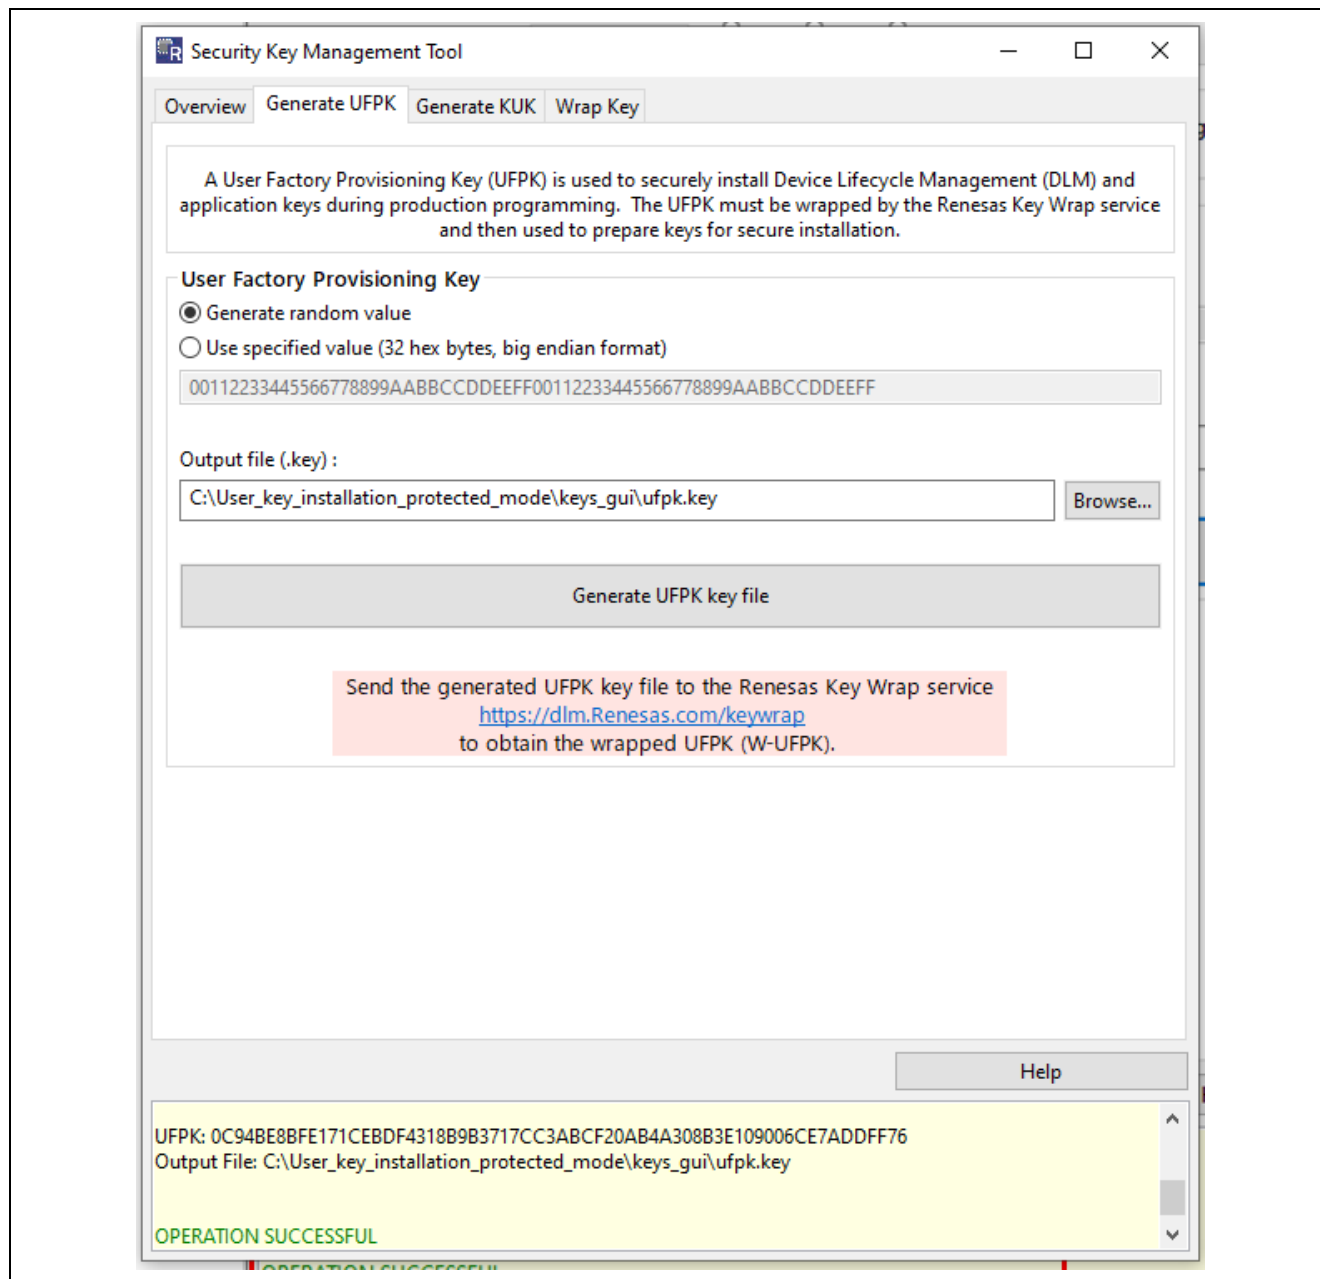

Figure 41. Generate Random Value for the UFPK using GUI for SCE9
- Click **Generate UFPK key file**. The `ufpk.key` file will be generated. This operation is demonstrated in Figure 41.